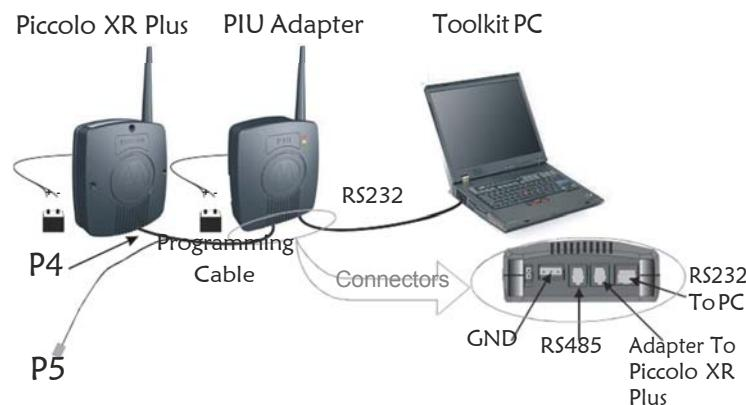

Figure 21
1. Connect the PIU adapter RS232 port to the computer using the FTM6597B cable (see Figure 21).